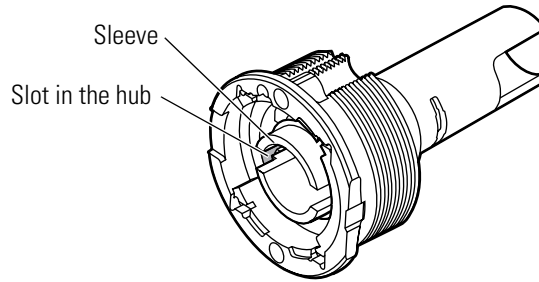

Figure 3.31 Positioning the sleeve
4. Align the sleeve so that the deep slot in the sleeve lines up with the slot in the hub, as shown in Figure 3.31.